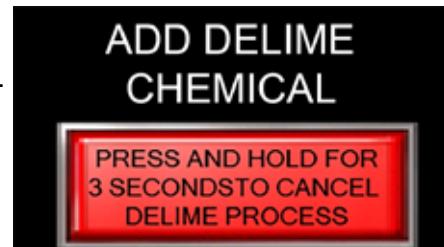

Fig. 88 - Add delime chemical
8. "ADD DELIME CHEMICAL" appears (Fig. 88).